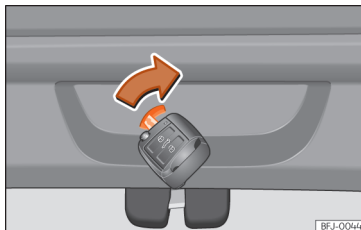

Fig. 88 Detail of the luggage compartment: emergency unlocking
- Insert the key blade into the slot and press the lever in the direction of the arrow until the lock unlocks >>> **Fig. 88**.